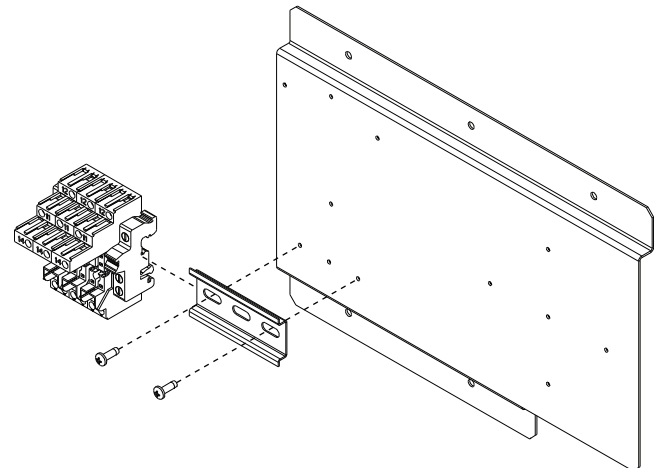

Fig. 3 — Relay Bank Mounting
2. Locate two No. 8 screws, two rail ends and a 3-in. mounting rail. For gas heat units locate three relays and three mounting bases. For optional electric heat and heat pump units: locate two relays and two mounting bases only. Mount these items together. (See Fig. 3.)